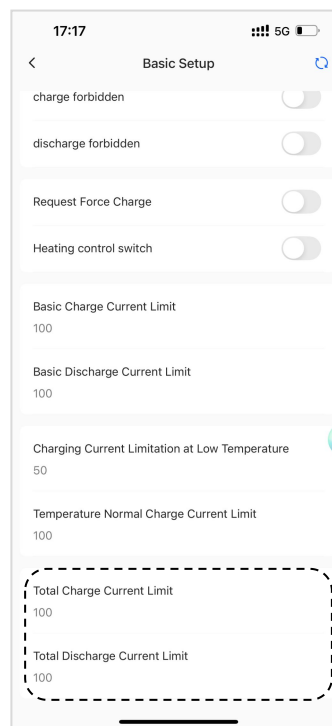

Figure 35
- Set the "Total Charge/Discharge Current Limit", as shown in Fig. 35.